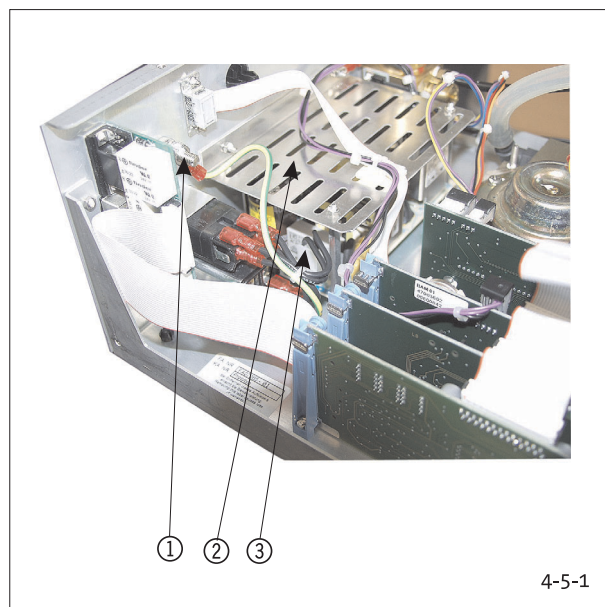

Fig. 4-5-1: Position Non-Heating Device Plug
- ① Bolt Screw for Mass Connection/Potential Equalization Line
- ② Power Pack
- ③ Power Pack Connector Plug
1. (Fig. 4-5-1) Unscrew PE connection ① .
2. Remove plug-in connector at cable of non-heating device plug of power pack ② by pulling towards top.